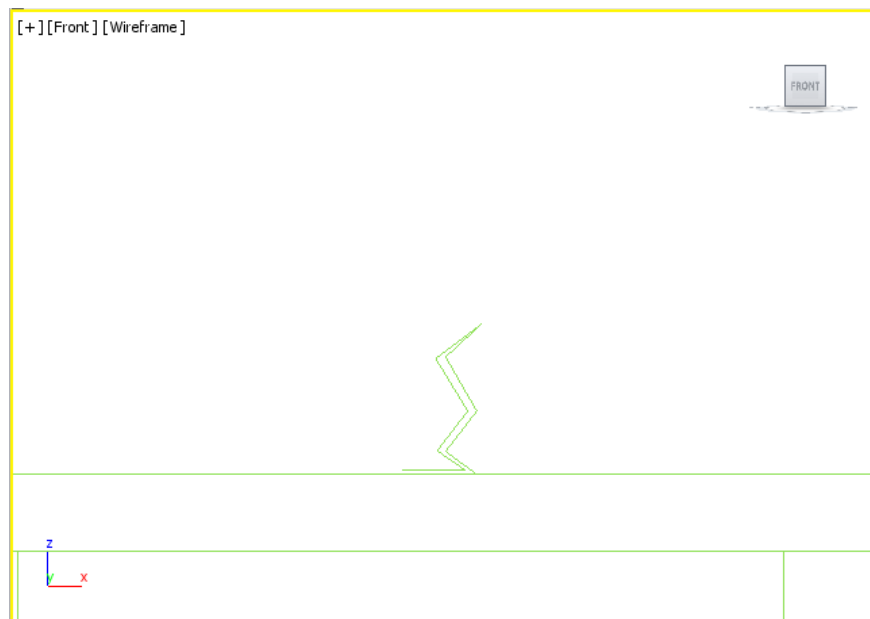

Figure 5-11 The profile of the Jug
7. Right-click to exit the **Line** tool; a double-line profile of the jug is formed. Use the **Zoom** and **Pan** tools, if needed, to display the entire profile of the jug, refer to Figure 5-11.